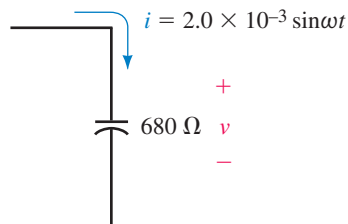

FIGURE 18-80
- For the component shown in Figure 18-80: